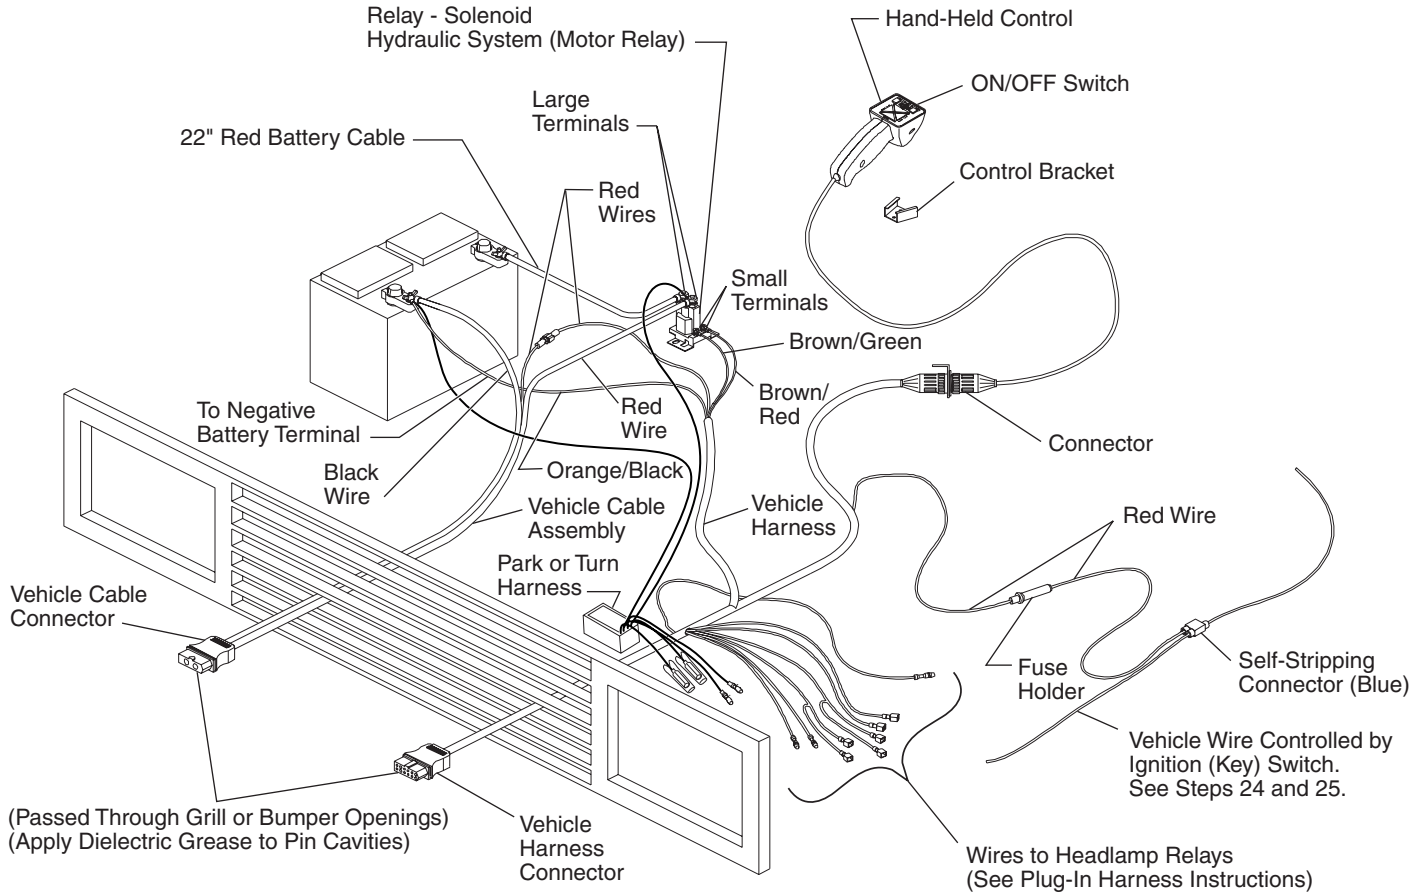

Figure 28
11. Find a location in the vehicle grill or bumper opening on the driver side for routing the vehicle harness. See Figure 28 on the previous page for routing the vehicle harness.